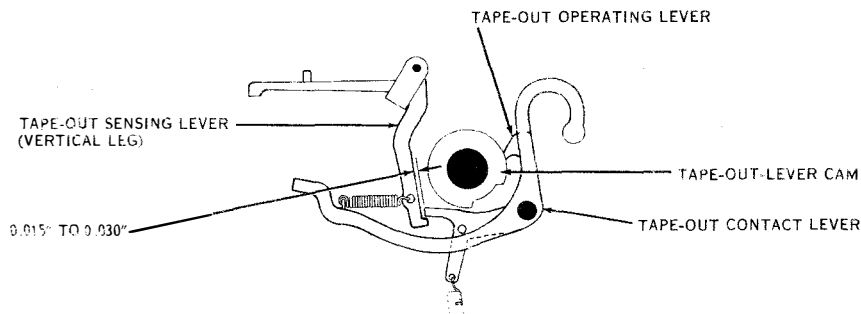

Figure 7-91. Tape-out Sensing Lever
(24) **TAPE-OUT SENSING LEVER.** (See figures 7-91 and 7-92.)—The adjustments described in the preceding paragraphs should provide satisfactory operation of the distributor-transmitters under normal conditions. However, when it becomes necessary to run badly worn or creased tapes through the unit, it is recommended that the tape-out sensing lever be adjusted to provide a wider margin of operation. Two